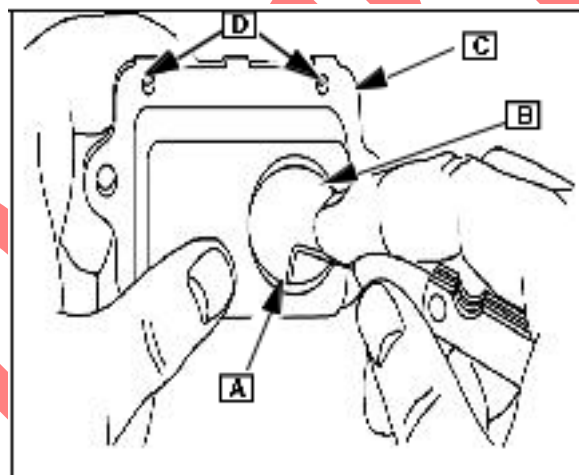

Fig. 34
A 0.045 in. (1.14 MM.) wire gauge (A) should *not* enter the space between the fiber disc valve (B) and the body (C). The breather holes ([D] Fig. 34) must be open.
Check as shown in. Fig. 34.